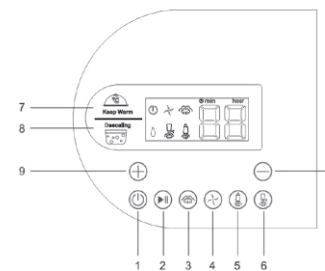

figure 2
**5.2. TOUCH CONTROL PANEL (figure 2)**